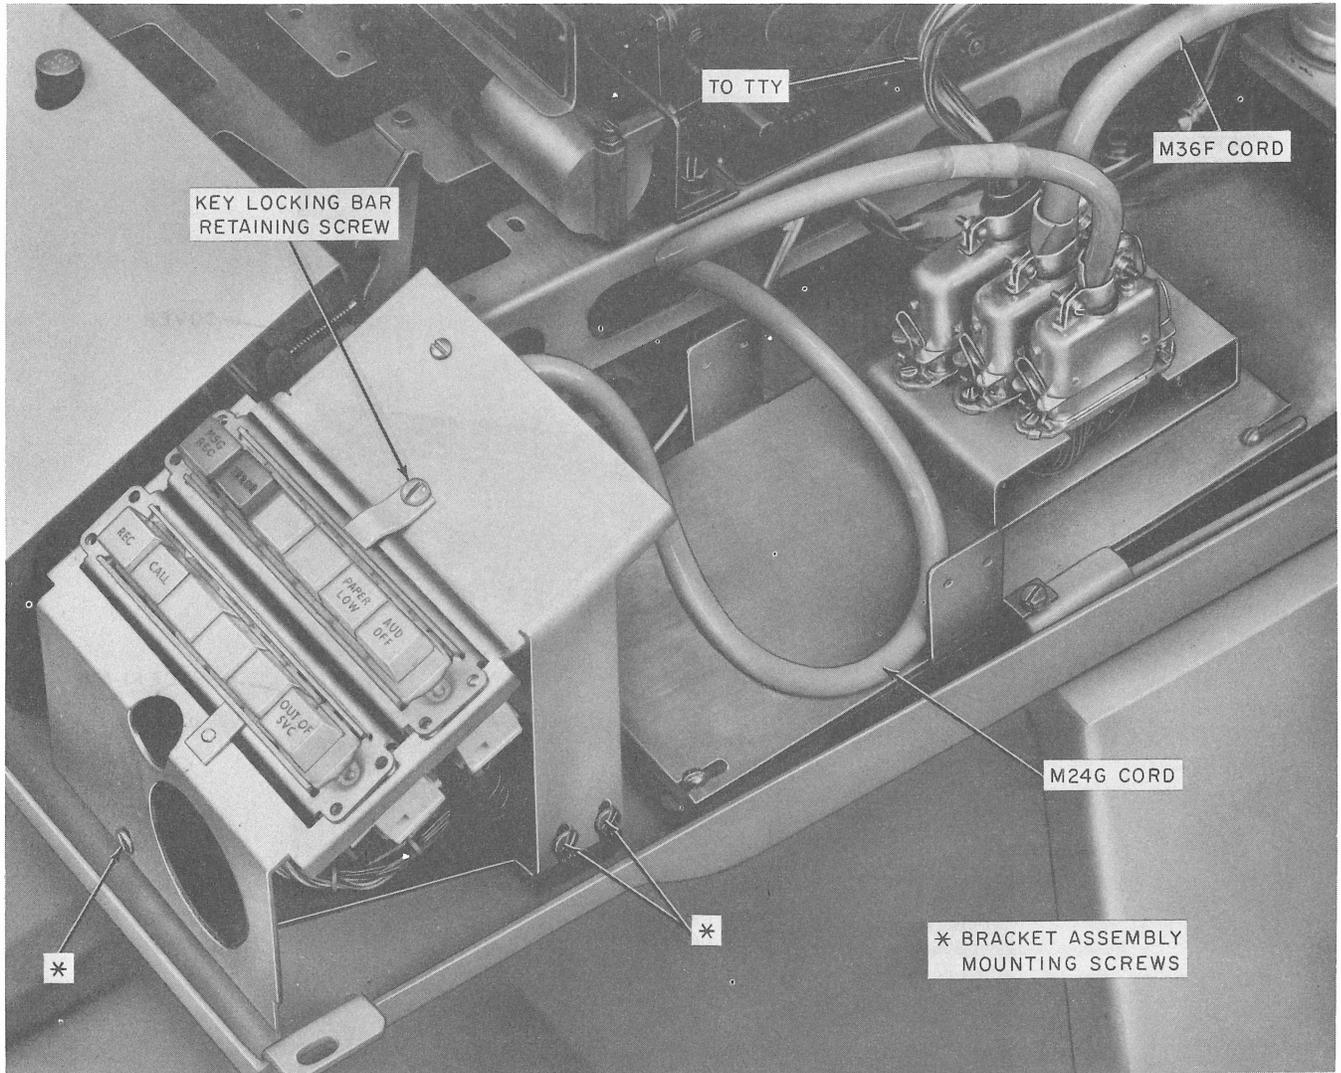

Fig. 15—35 RO TTY Data Station—Data Auxiliary Set 804N2
- (5) Loosen, but do not remove, the five bracket assembly mounting screws on the attendant set (Fig. 15).
- (6) Disconnect plug on the M24G cord (part of the 804N2 attendant set) from the connector at the rear of the attendant set.
- (7) Remove the mounting bracket, key and lamp assembly, and loudspeaker from the TTY.